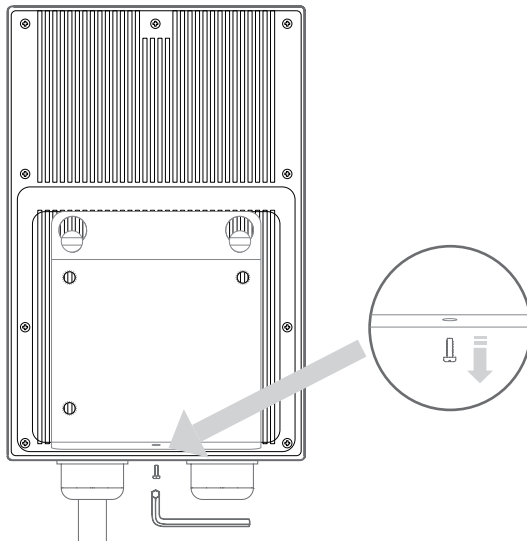

Fig. 5-2
1. Unscrew the hexagon socket head screw at the bottom of the back cover with the provided hex screwdriver, and remove the wall bracket from the charger. (See Fig. 5-2)